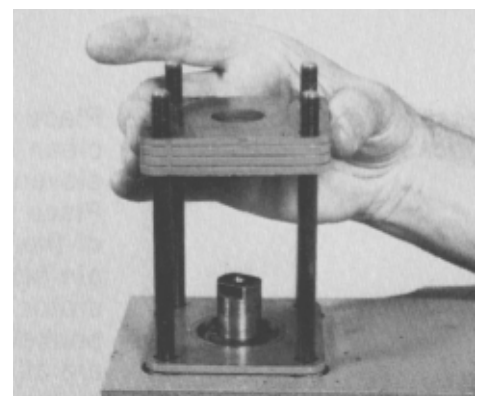

Figure 87
7. Install the upper cover plate over the four bolts with the highly polished surface up (Fig. 87).